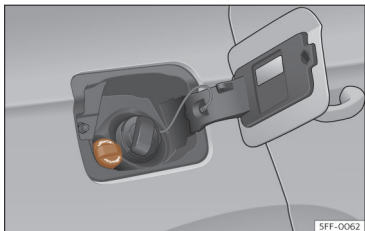

Fig. 203 AdBlue tank cap®.
- Open the tank cover >>> Fig. 203.
- Turn the SCR tank cap anti-clockwise >>> Fig. 203.